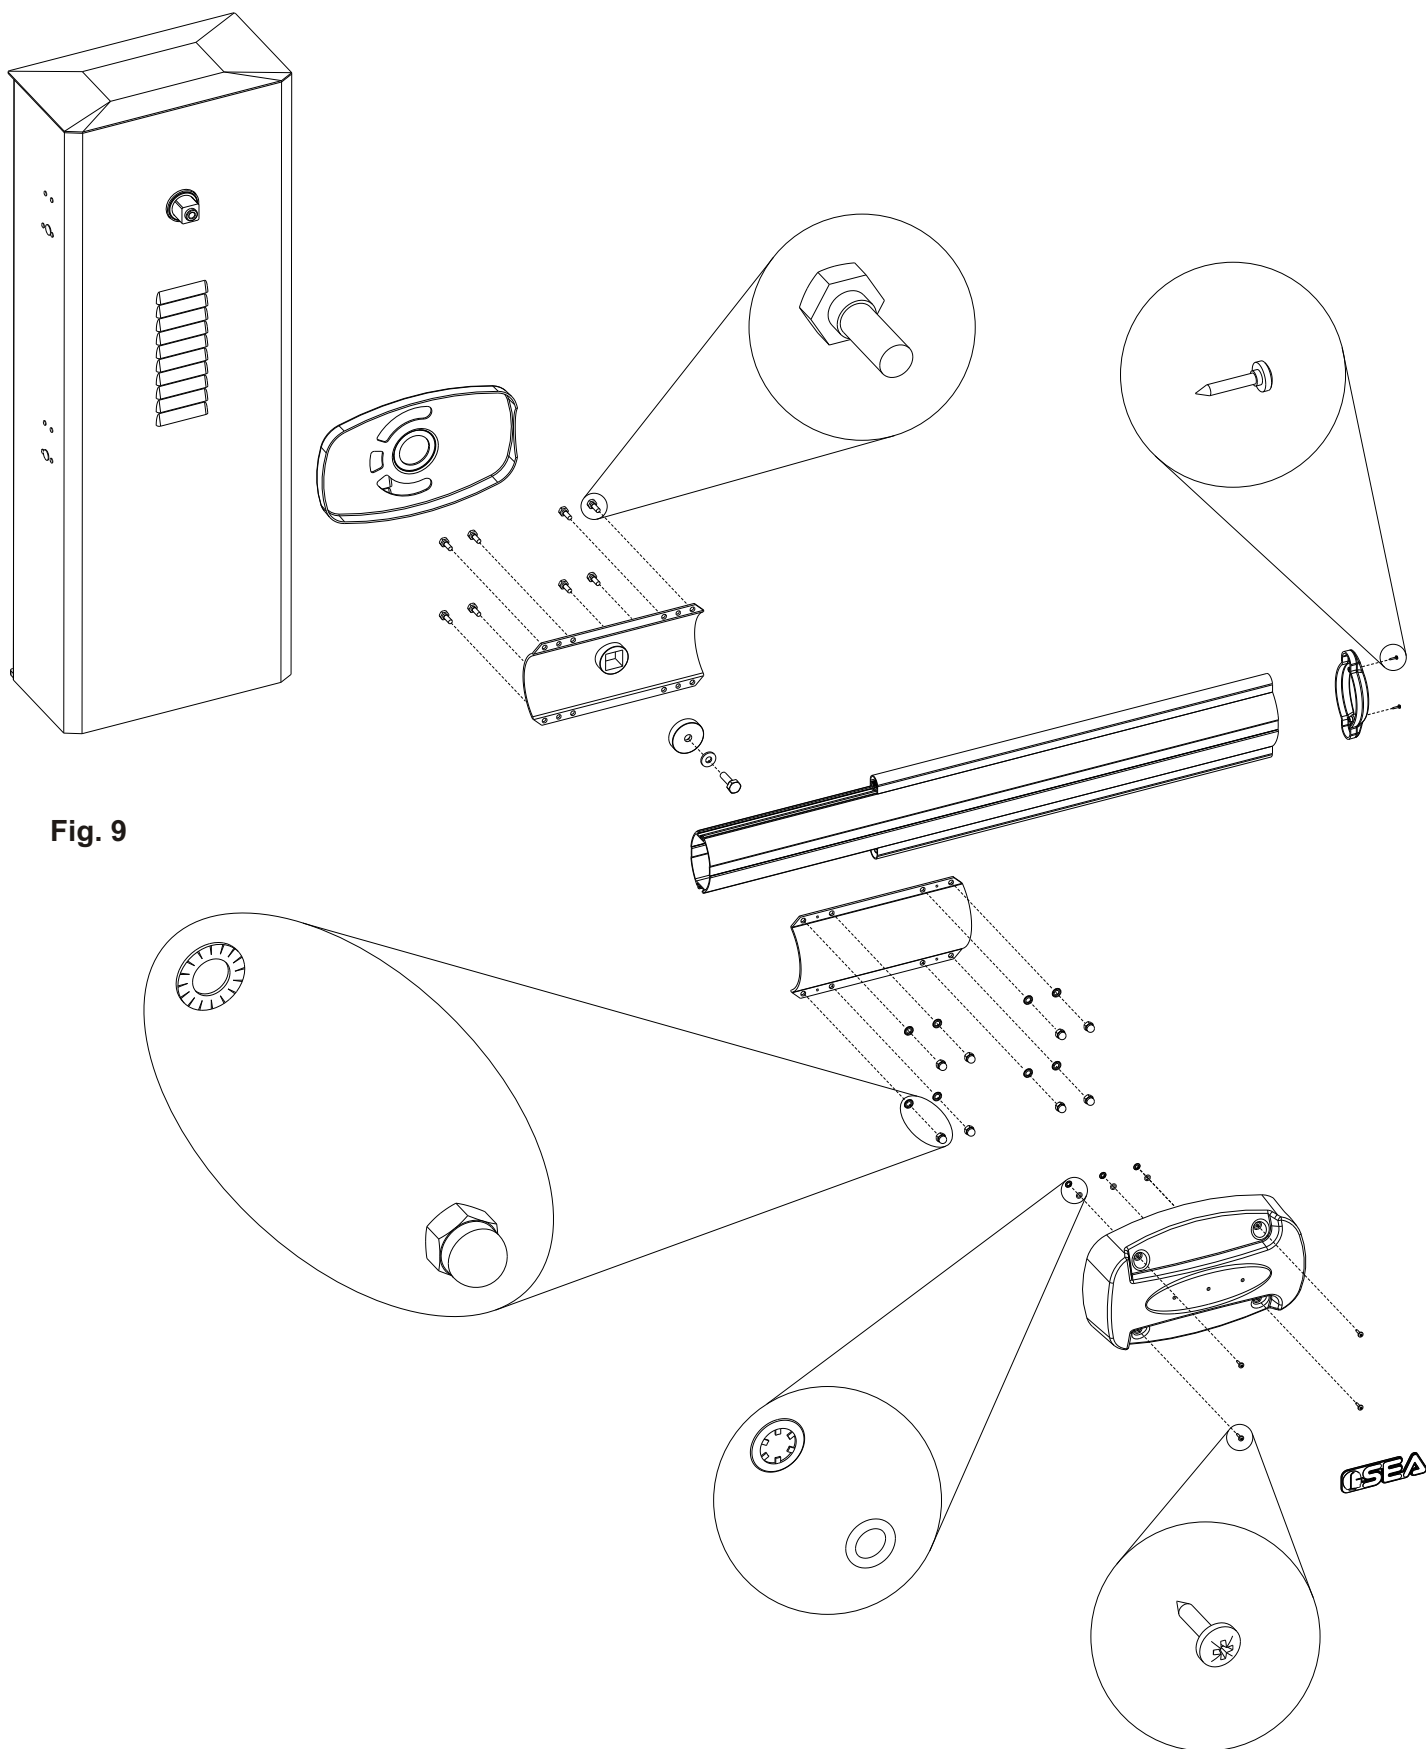

Fig. 9
6) Mounting of the Linear beam (Fig. 9)